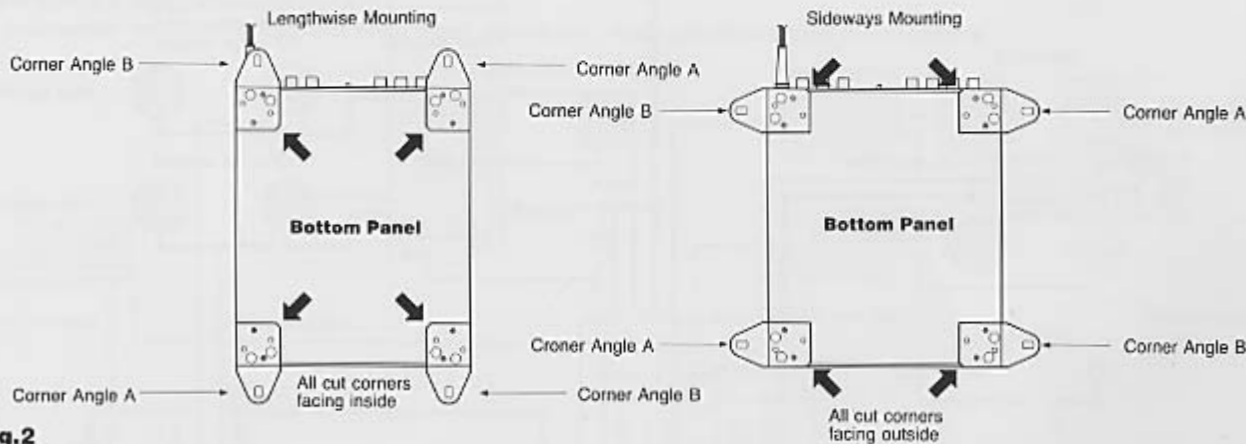

Fig. 2
- ② Depending on the installation requirements, the angles may be mounted either lengthwise or sideways. Refer to Fig. 2 to determine the correct positioning and orientation of the corner angles A and B.
The setting principle for these selectors is as follows: the sum of all switches in a row set to the left side becomes the filter frequency (see Fig. 2).